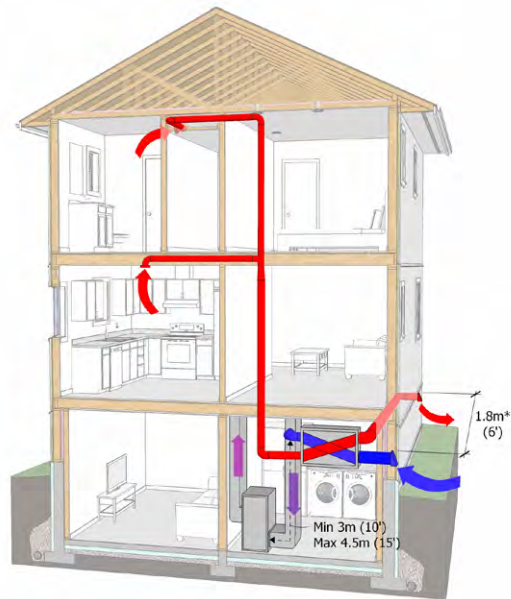

Figure 6: Forced-air system with integrated HRV.
2. HRV combined with a forced-air heating system: In this configuration, the forced-air system, typically a furnace, provides the air distribution. The HRV supplies outdoor air into the return side of the furnace ductwork and draws ducted exhaust air directly from spaces in the house, as shown in Fig. 6. Section 9.32 requires at least general exhaust to be ducted directly to the HRV. There may also be separate bathroom and kitchen exhaust fans. These systems typically use a trunk-and-branch ducting system, and can work effectively if properly designed and balanced. Balancing is usually achieved via manually adjusted balancing dampers, although adjustable diffusers may also be used for the branches.